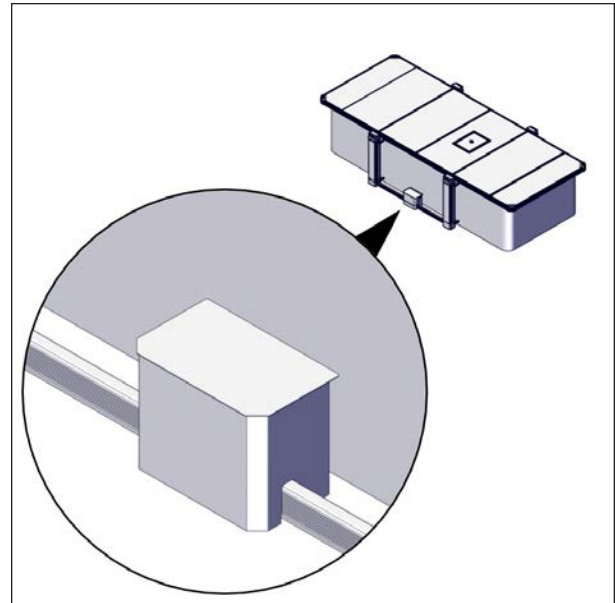

FIGURE 96: CONTROL BOX HOUSING INSTALLATION
- Slide the control box housing onto the U-frame, see Figure 96.